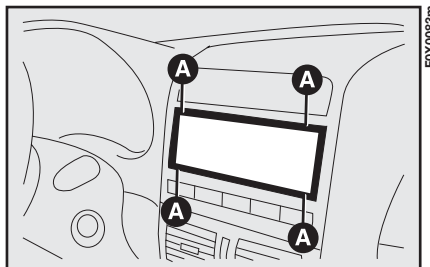

fig. 102
- pressing on the retaining tabs A-fig. 102 remove the cover to locate the dedicated connections.